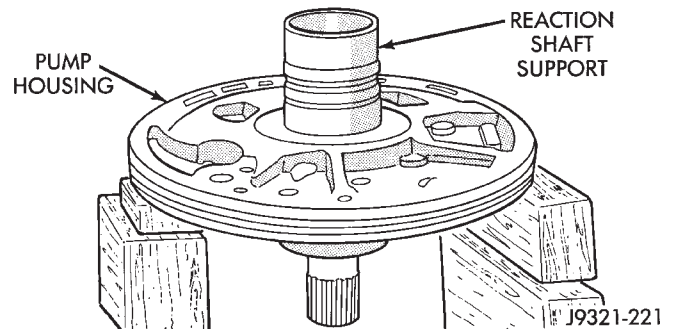

Fig. 60 Assembling Reaction Shaft Support And Pump Housing
(8) Install reaction shaft support on pump housing (Fig. 60).